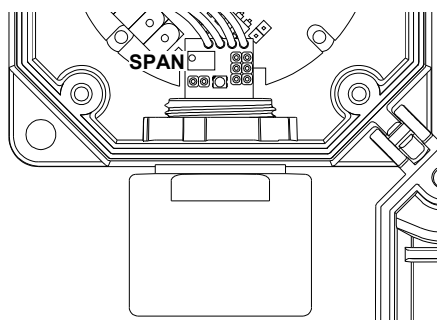

Fig. 9b: Position of the Span control on the sensor for toxic gases.
- Regulate the 'SPAN' trimmer (shown in Fig. 9b) until the multimeter shows a current equal to the one calculated with the formulas. If the operation is not successful at the first try, repeat the procedure again, putting the sensor in clean air and powered for at least 10 minutes.